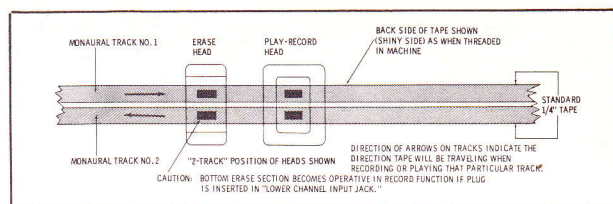

Fig. 3. "2-Track" Position of Heads Shown for Monaural Record or Playback Operations
- a. Turn the Function knob to the Stop position and thread the machine. In Series T-2200 recorders, it is further necessary to turn the head track selector knob to the "2-Track" position. This action moves the heads in a position with respect to the tape as shown in Fig. 3.